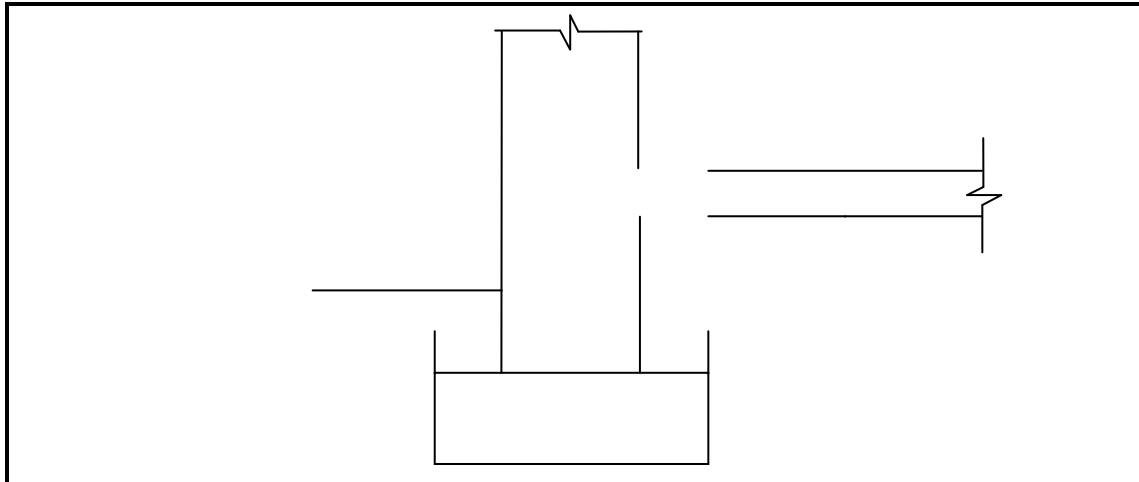

FIGURE 1.8
1.8 FIGURE 1.8 below illustrates an incomplete sectional view of the substructure of a building.